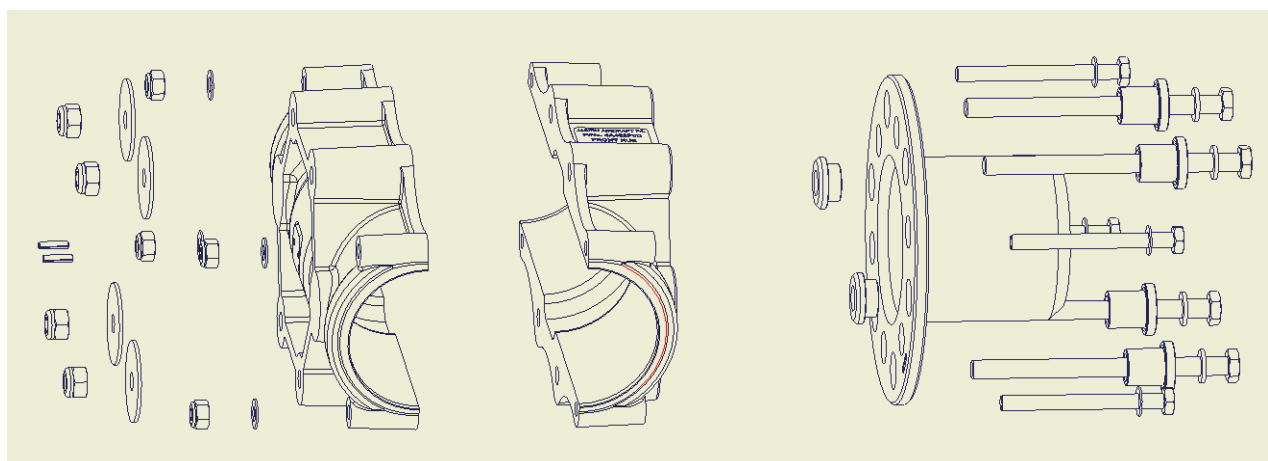

Figure 8 – Propeller Hub Assembly (Spinner and blades not shown)
- Ensure that Propeller drive bushes – 6 off, are in place in the Crankshaft Propeller Flange (note that two are special, short parts and face “backwards” compared to the others – see Figure 8). Fit the rear spinner backing plate to the flange.